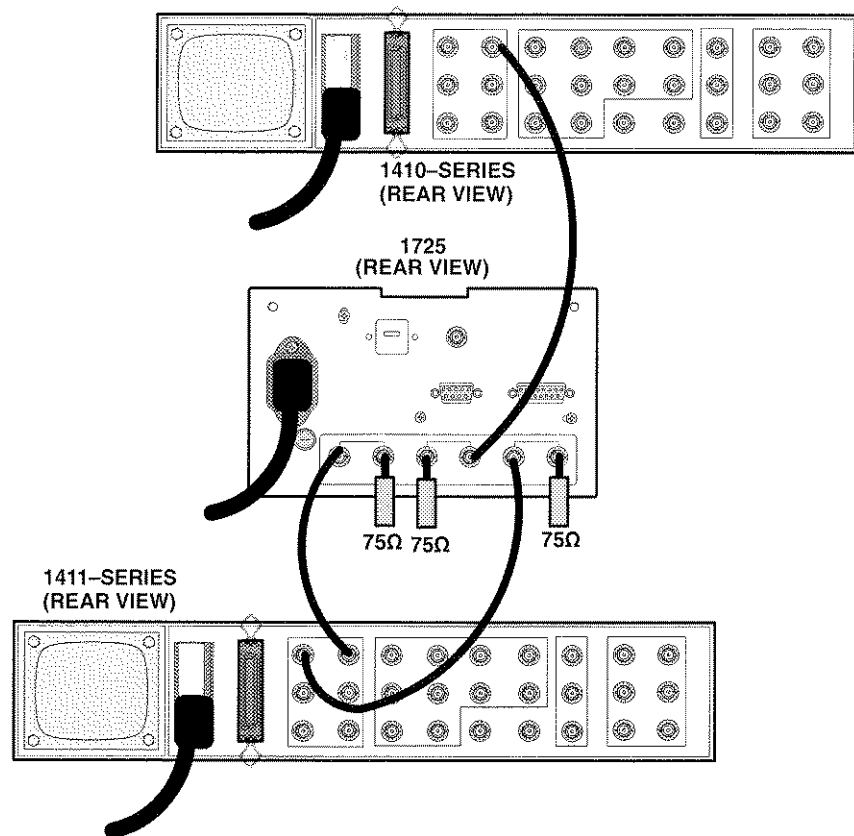

Figure 5-14: Initial equipment connections for the adjustment procedure
SIGNAL CONNECTIONS. Connect the PAL black burst signal to the 1725 EXT REF INPUT and terminate with a 75Ω termination. Connect the PAL color bar signal to the 1725 CH-A INPUT and terminate with a 75Ω termination. Connect the NTSC color bar signal to the CH-B INPUT and terminate with a 75Ω termination. See Figure 5-14.
- a. Reconnect the PAL (CH-A) and NTSC (CH-B) color bar signals to the INPUTs. Terminate both inputs in 75Ω. See Figure 5-14.